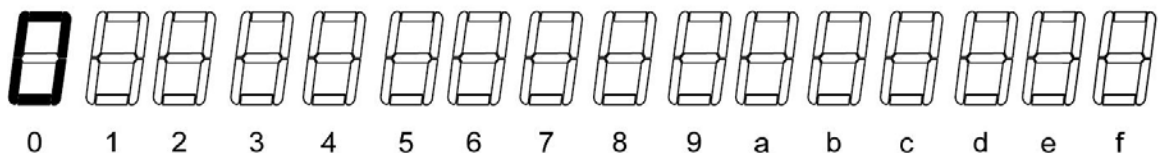

Figure 4.2: The decoder should produce all 16 outputs
1. *High Level Preparation:* Figure 4.2 shows all of the different outputs that the seven segment decoder should produce. Shade in the segments that should be on for each input, 0-F.
Use the shading in Figure 4.2 to fill in the functional truth table below.